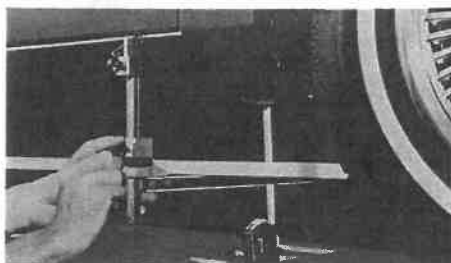

Figure IV-21
- 3) Raise or lower the horizontal bar of the gauge until the bottom of the tram gauge bar is at the datum height of the reference point. Tighten the thumb screw on the scale housing and note the scale reading. (See Figure IV-21.)